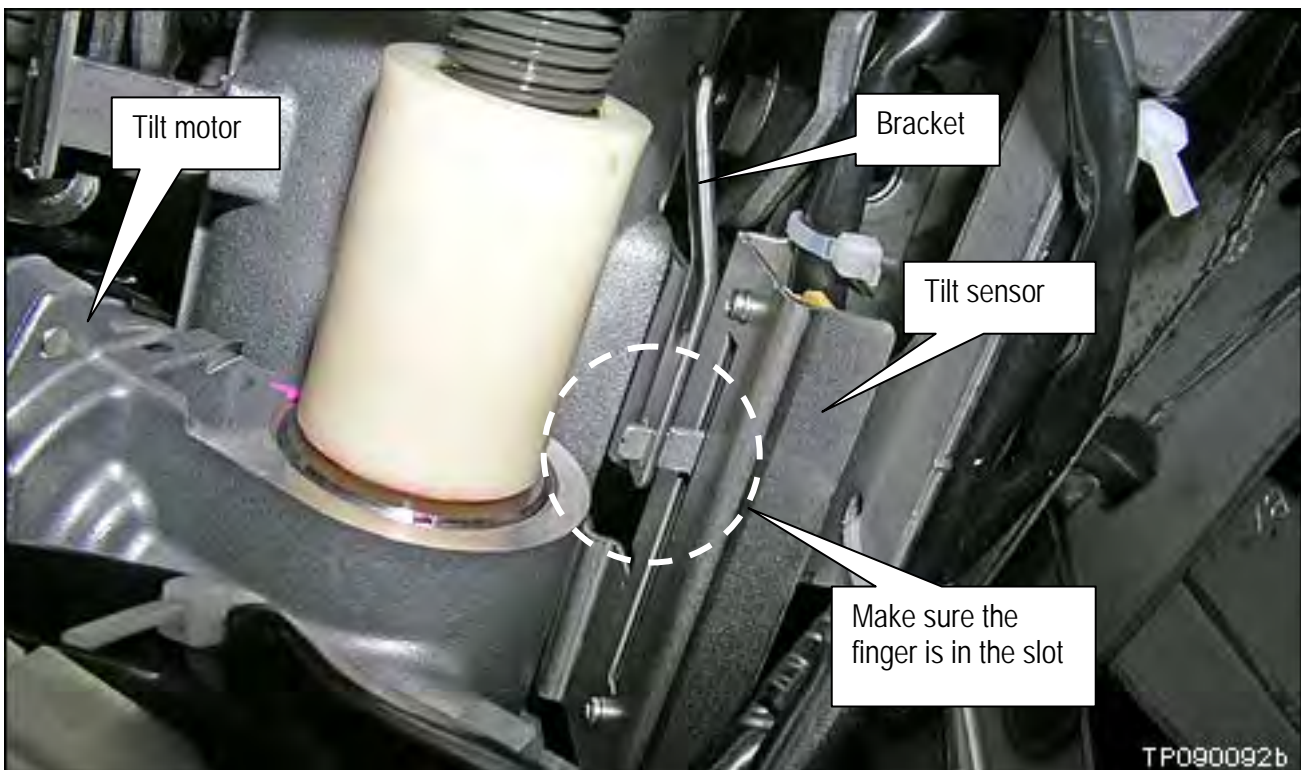

Figure 34a
- Make sure the tilt sensor finger is in the bracket slot as shown in Figure 34a.